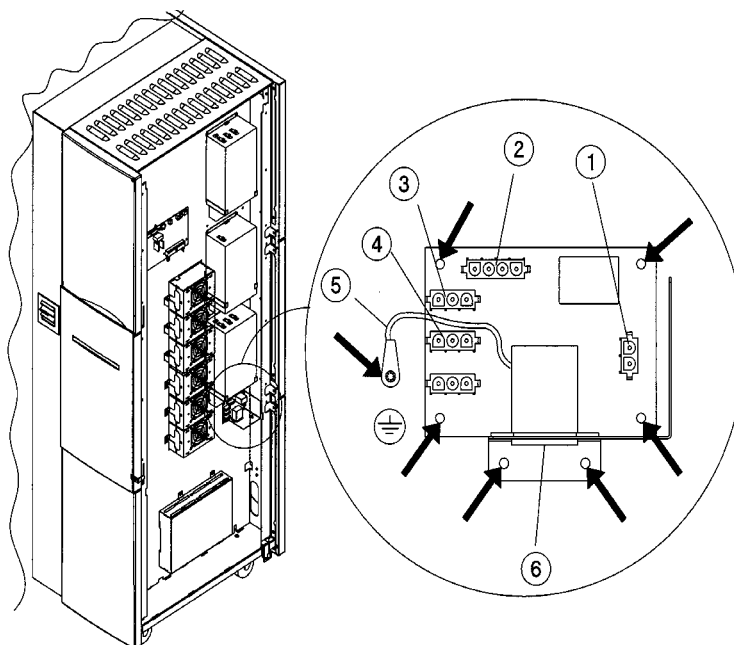

Figure 80: Power Distribution PCA
2. Remove the power cable and other power distribution cables from the PCA. See Figure 80.
- a. Remove the T-20 screw on the static strap (strap is #5 on Figure 80).
- b. Remove the other six T-20 screws holding the PCA. Four screws are on the PCA and two are on the power plug bracket (see Figure 80).